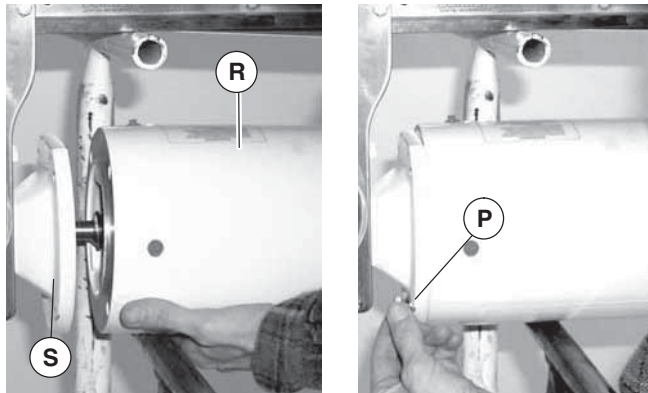

Figure 19
- Attach motor (Figure 19, item R) to gear reducer (S) with four screws and lock washers (P). Tighten screws to 32 ft-lb (41 Nm).